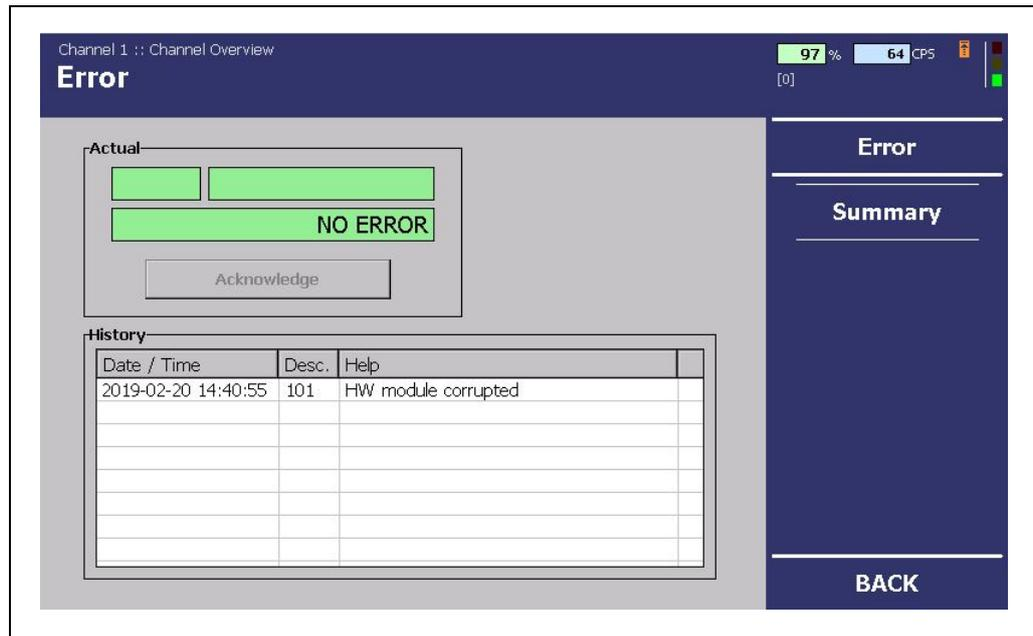

Fig. 73 "Channel Overview" Menu, Error
4. Click on <Export Service Data> (Fig. 73, Item 3).